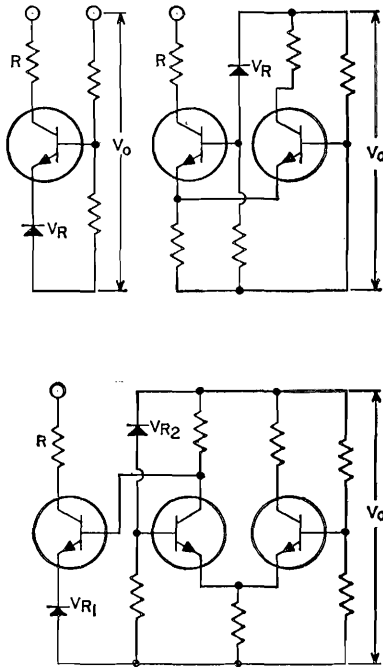

Figure 61. Typical differential amplifier circuits.
**Differential amplifiers** can be used to provide voltage regulation, as described above, or to compensate for fluctuations in current due to signal, component, or temperature variations. Typical differential amplifier elements such as those shown in Fig. 61 include an output stage which supplies current to the load resistor  $R$ , and the necessary number of direct-coupled cascaded stages to provide the required amount of gain for a given condition of line-voltage or load-current regulation. The reference-voltage source  $V_R$  is placed in one of the cascaded stages in such a manner that an error or difference signal between  $V_R$  and some portion of the output voltage  $V_0$  is developed and amplified. Some form of temperature compensation